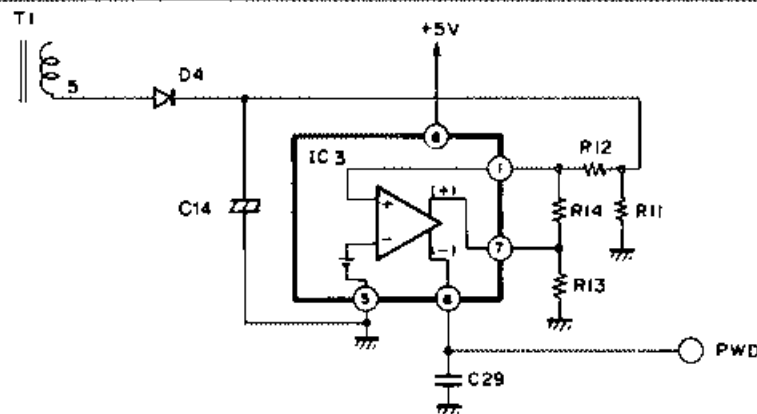

FIGURE 2-13. POWER DOWN DETECTOR (IC3)
2.2.7 Power Down Detector (PWD) (Figure 2-13)